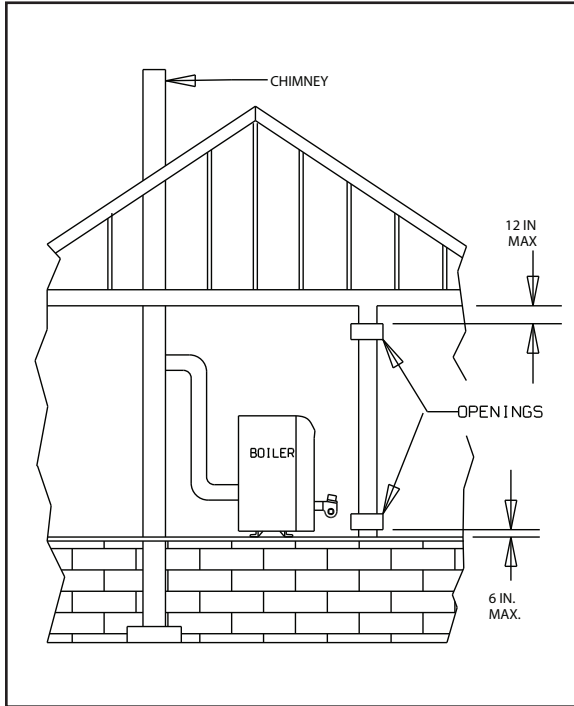
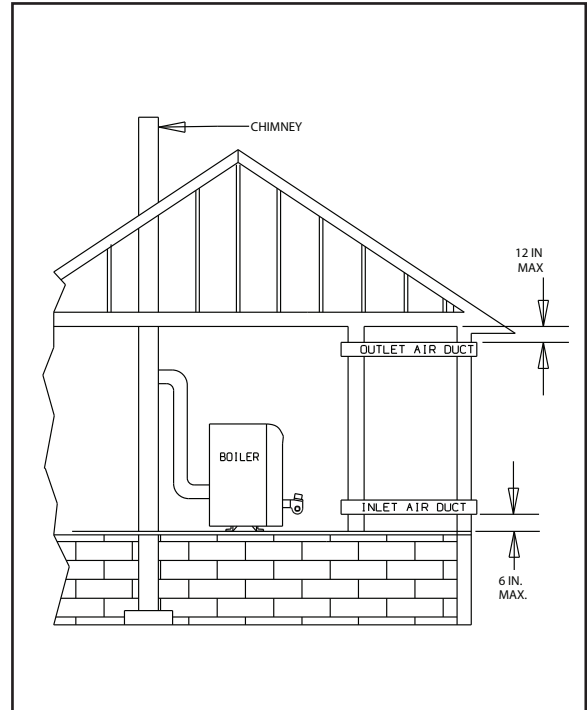

Figure 3a.
Figure 3b.
- E. Install barometric draft regulator on horizontal breeching, near chimney, with hinge horizontal and face vertical conditions permitting as in Figure 3a. See Figure 3b as a second